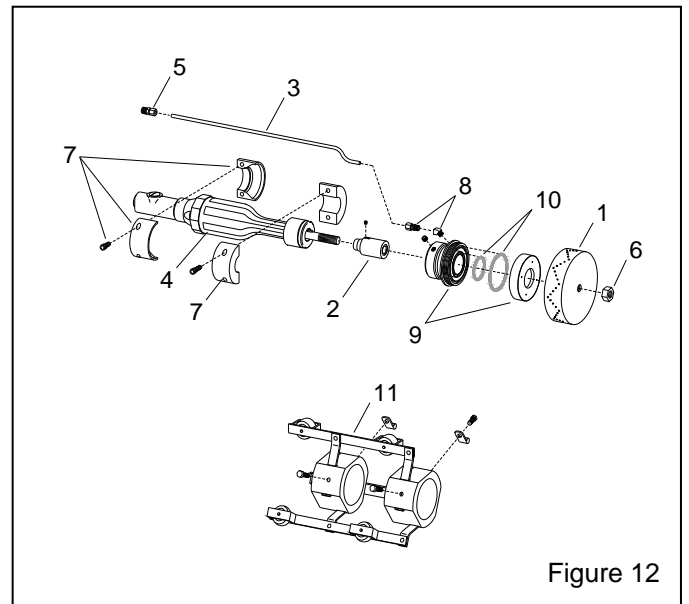

Figure 12
8.6 Spin-Kote 1236 with 6" Head, Figure 12